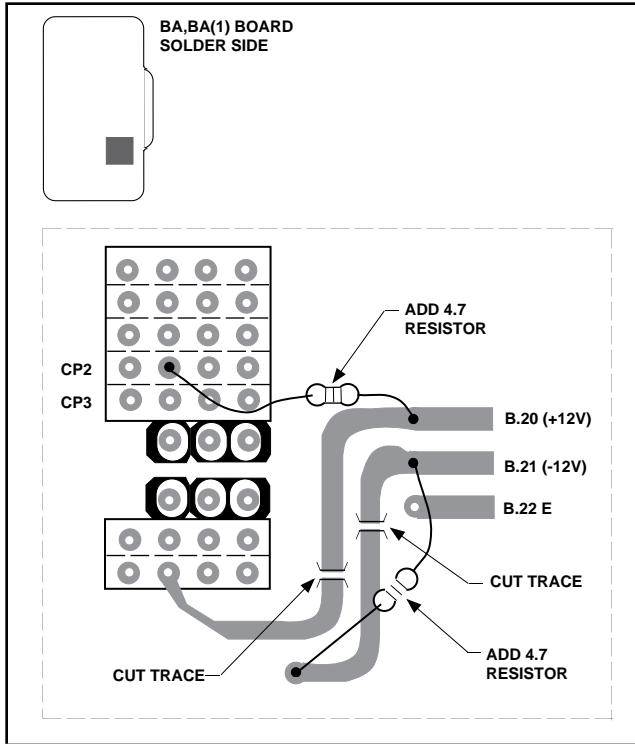

Figure 1
**BA, BA(1) or BA(3) Board**
**(See Figure 1 for BA, BA(1) Boards)**
3. Tack-solder two 4.7Ω resistors (solder side) at locations shown in Figure 1.